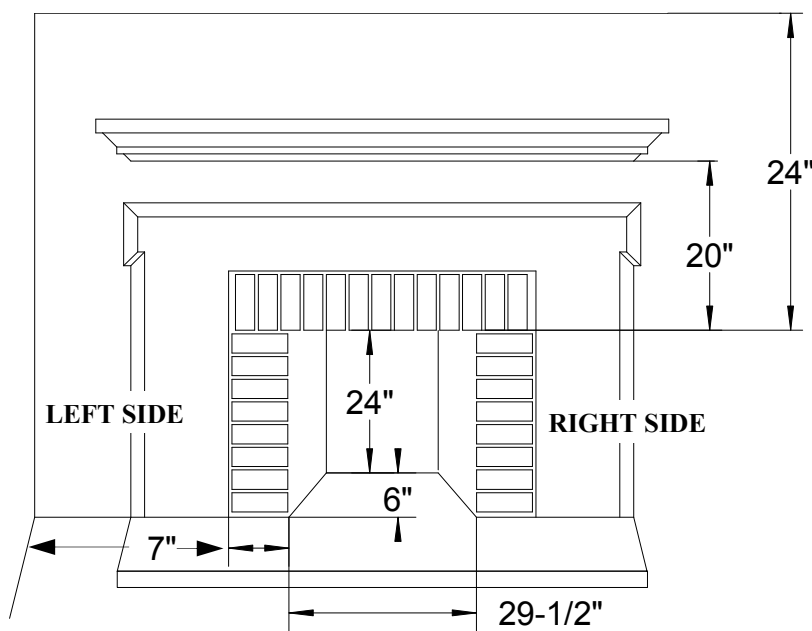

Figure 7
- (1) The Model 329 (FP) may be installed in a masonry fireplace. The **minimum fireplace dimension** must be 24" high, 29-1/2" wide, and 6" deep.
- (2) For minimum dimensions for the sidewall and mantel, see Figure 7.
- (3) Center the heater in fireplace opening.
- (4) **NOTE:** See "Producing Adequate Ventilation" page 32.
See page 24, figure 7 for Clearances to Combustible Materials.